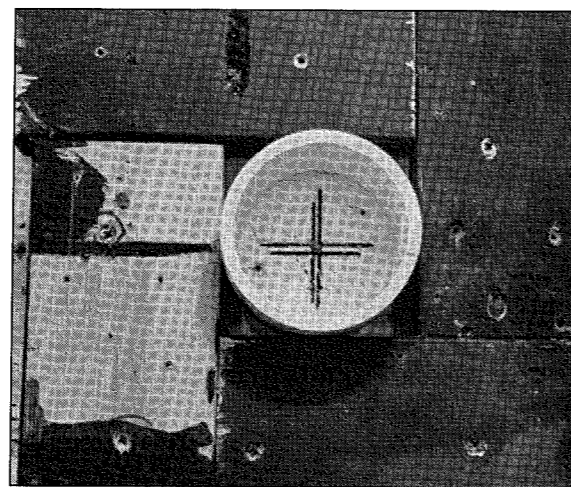

Figure 4
8. Drill a 1" diameter hole through the casting using a dulled wood-boring bit. A dulled bit will cause the casting to melt, creating a smooth wall. To ensure the hole is centered I suggest using a shop built fixture to mark the center point. The fixture is made of scrap plywood and 1x material and holds a short length of PVC with a nail sticking up through the center. (Figure 4) By inserting the casting into the PVC and pushing down, the exact center of the casting is marked accurately every time.